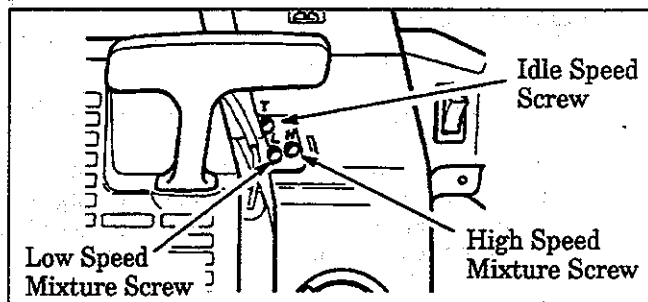

Figure 42
- Locate the three (3) carburetor adjusting screw openings Figure 42.
- Start the engine and allow engine to idle three (3) minutes to warm up. *The engine must be at operating temperature for proper adjustments to be made.*